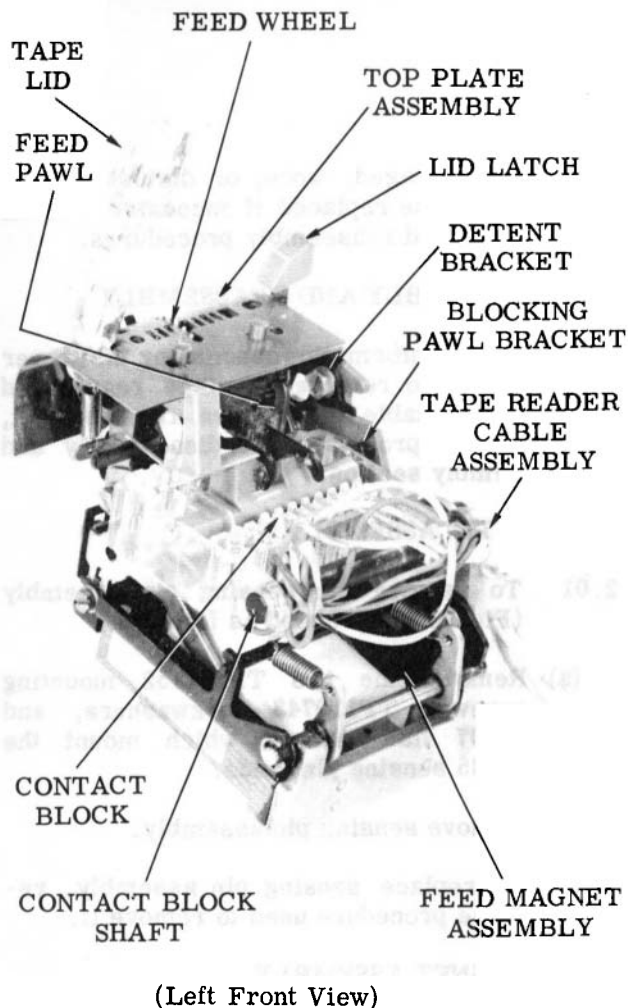

Figure 1 - Tape Reader (Without Cover)
2.02 To remove the feed magnet assembly (Figure 1), proceed as follows.
2.03 To remove feed wheel and top plate assembly (Figure 1), proceed as follows.